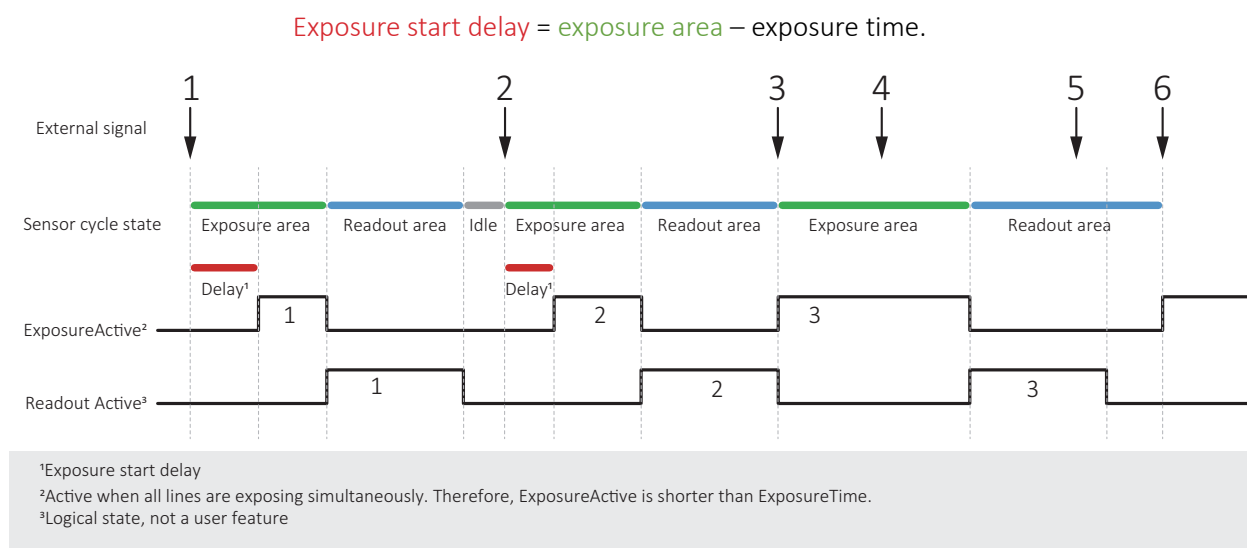

Figure 78: Triggering rolling shutter (RS) cameras
This section describes triggering behavior for **1800 U-500m/c, U-501m NIR, U-1240m/c, and U-2050m/c**. Figure 78 shows how an external signal triggers exposure and readout for cameras with rolling shutter (RS) sensors. Like for global shutter (GS) sensors, readout has a constant duration, acquisition must be active to enable exposure, the end of exposure starts readout.